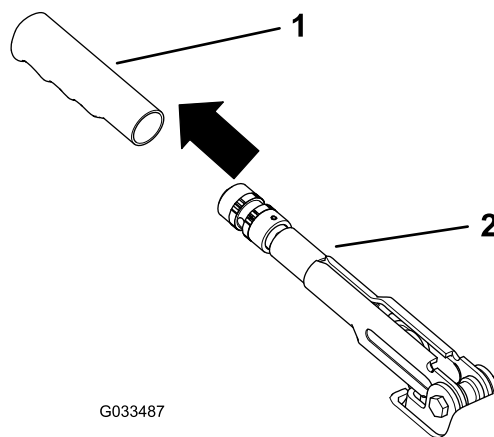

Figure 56
1. Remove the rubber grip from the parking-brake lever (Figure 56).
5. Install the rubber grip onto the parking-brake lever (Figure 56).